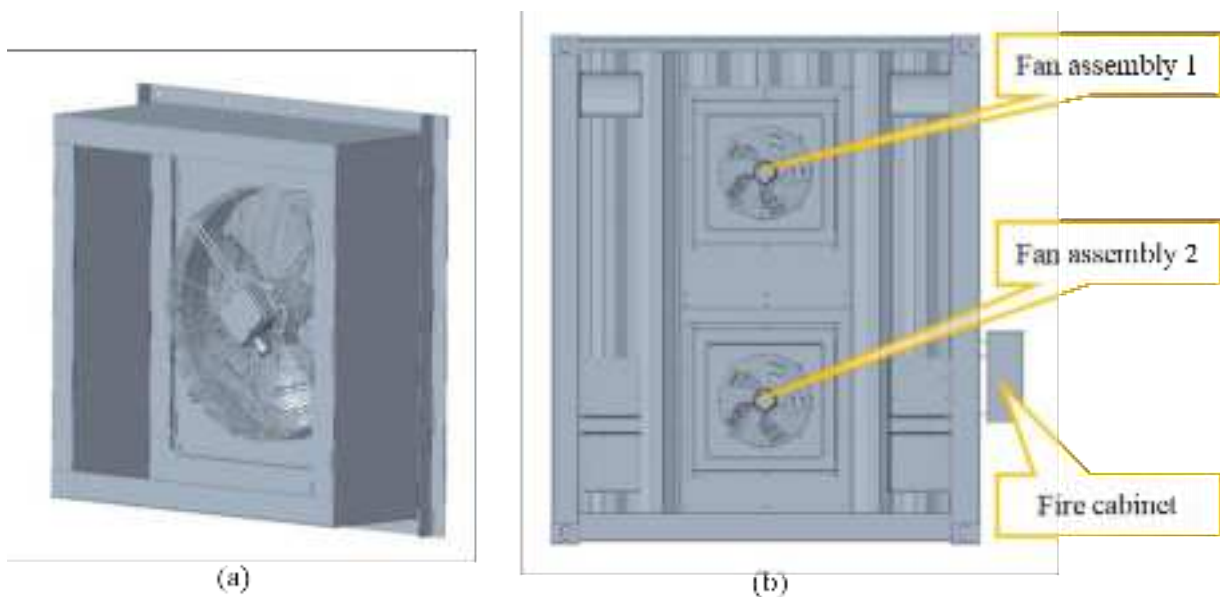

Figure 6.3 (a) Diagram of fan assembly (b) Installation diagram of container fans.
After determining the relative position of the container and the dry tower, take out the container exhaust fan assembly (exhaust fans G04 & G05, louvers, and insect proof nets are integrated, as shown in Figure 6.3 (a) from the container accessories wooden box, unpack it and perform installation:
- a. Installed at the rear door of the container, as shown in Figure 6.3 (b).